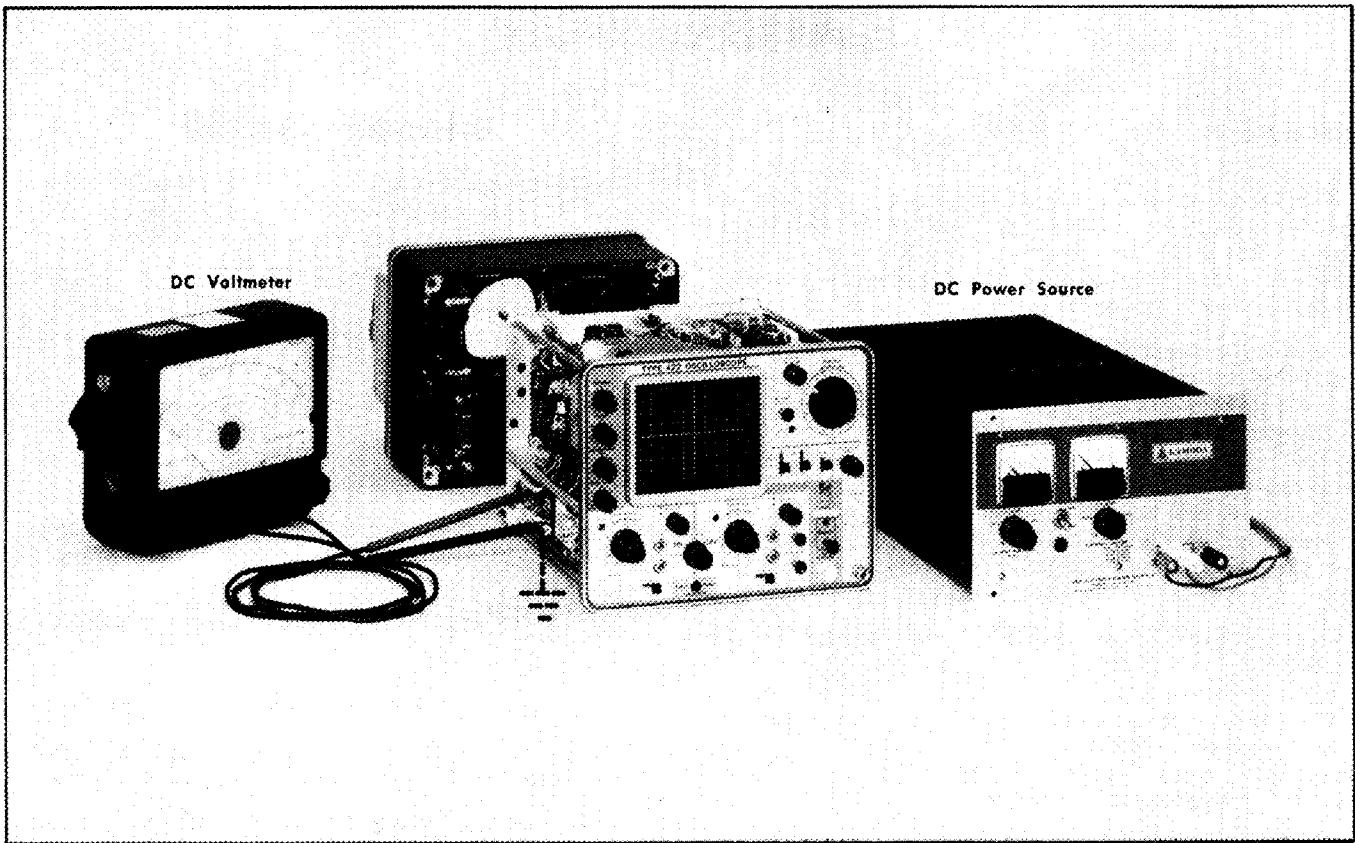

Fig. 6-1. Test equipment setup for —12-volts supply adjustment
The following equipment is required for complete calibration of the Type 422 AC-DC Power Supply (Fig. 6-1 in the Type 422 Indicator Manual shows items 1 through 4).
- a. Test equipment setup is shown in Fig. 6-1.